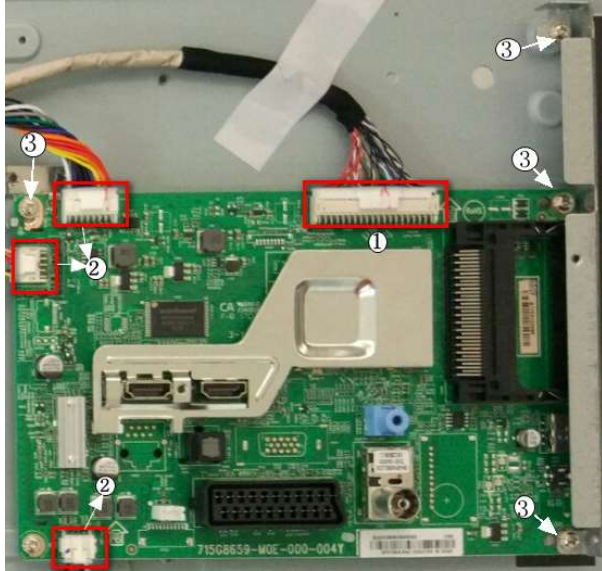
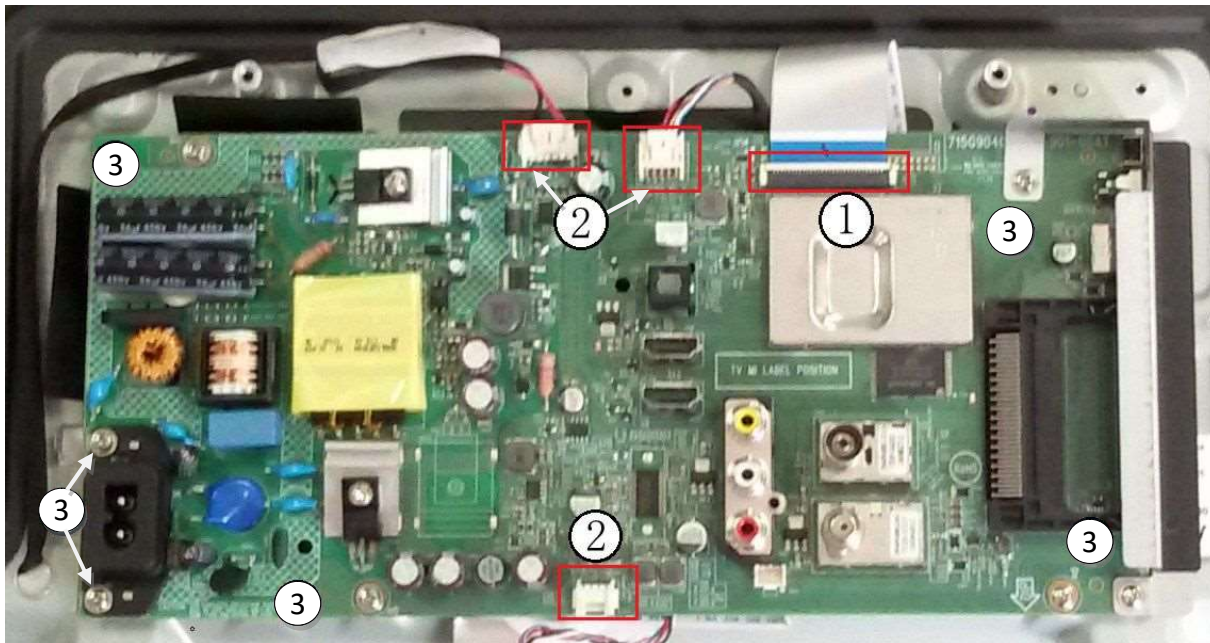

Figure 3-15 SSB
Figure 3-16 M+P BOARD (For 4112 Series)
3. Remove all the fixation screws [3] from the SSB or M+P BOARD. Refer to Figure 3-15 or Figure 3-16 for details.